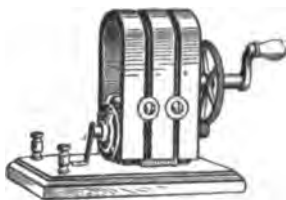
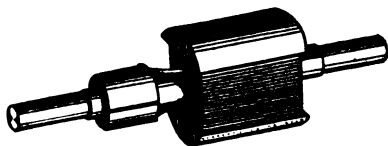

FIG. 281.—A magneto.
FIG. 282.—A shuttle armature.
**298.** The **magneto** is a device that illustrates the laws of induced currents stated in Art. 297. The magneto (see Fig. 281), consists of several permanent, "U"-shaped magnets placed side by side. Between the poles of these magnets is placed a slotted iron cylinder having a coil of many turns of fine insulated copper wire wound in the slot as in Fig. 282. The cylinder and coil form what is